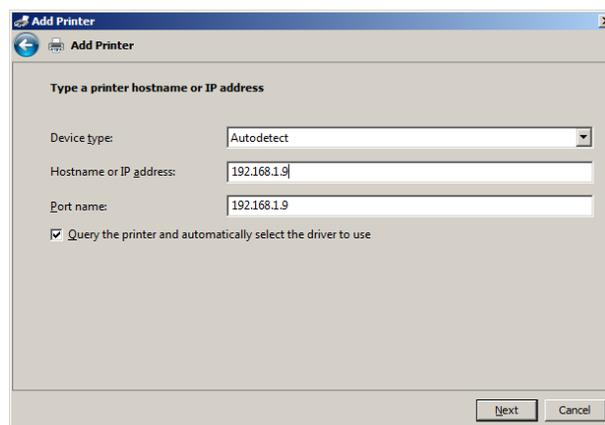

Figure 10-35 - Driver selection
- 15) On the next window for Hostname or IP address enter the Hostname or IP address of the printer you want to add. Port name should automatically fill in as you enter the IP address as shown below in Figure 10-35. Make sure the **“Query the printer and automatically select the driver to use”** box is checked. Hit **next**.